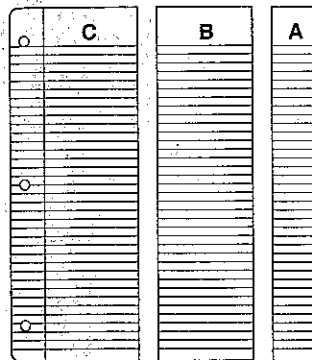

Figure 6.7b
Step 2: Cut the paper lengthwise along the two lines you have drawn so that you have three vertical strips to represent three leaves (Figure 6.7b).